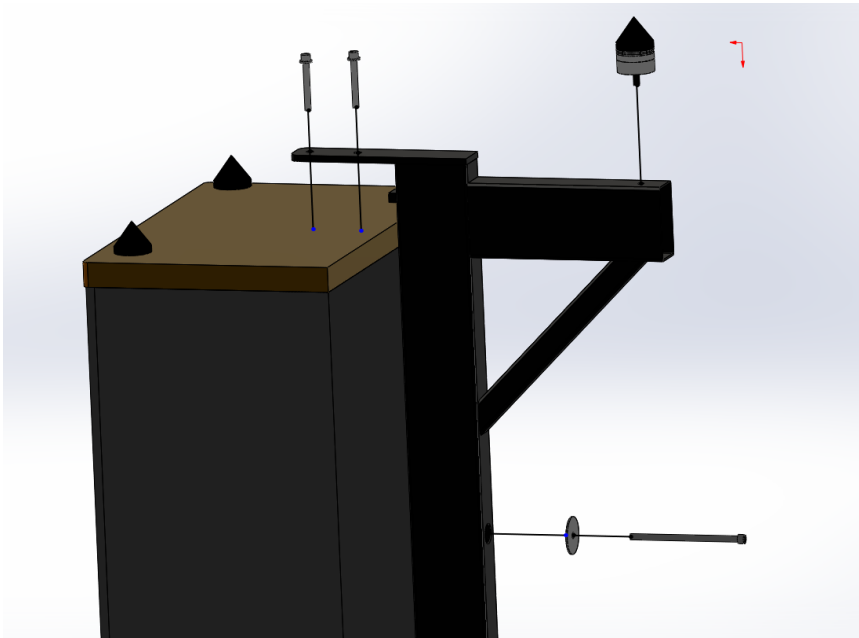

Figure 2
3. Install the rear brace into the recess on the bottom of the speaker as shown in Figure 2. Loosely attach the brace with a  $\frac{1}{4}$ -20 x 5" Socket Head Cap Screw and  $\frac{1}{4}$ " Flat washer into the rear of the speaker. Use the two  $\frac{1}{4}$ " screws that come with the speaker to attach the stand at the bottom.